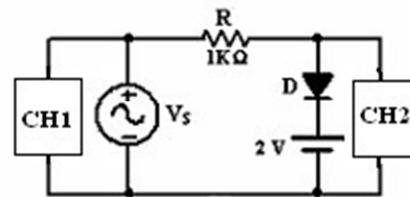

Figure 6
- 6- Switch OFF the Function Generator, and insert 2V DC power supply as shown in Figure 6 (**Positive clipper with bias**), then switch ON the Function Generator and repeat step 4.